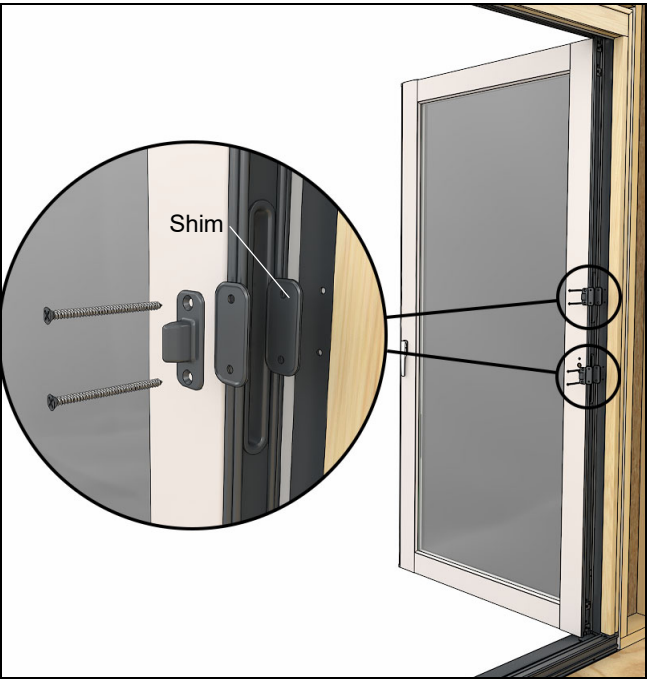

Figure 55
2. Pre-drill through the jamb cover holes with a 1/8" bit. Inject silicone into holes and apply silicone to screw threads. Fasten alignment bolts and correct number of shims from step 1. Repeat on other jamb if applicable. See Figure 55.